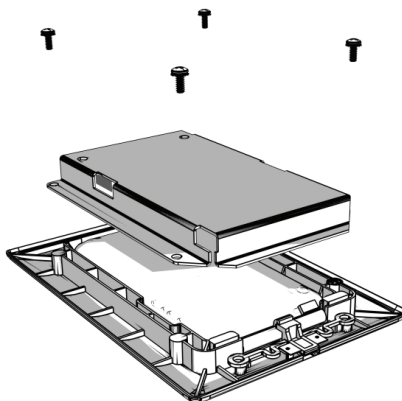

Figure 7: Attach Retainer
10. Place back plate over iPod and secure with 4 screws. The retainer has a foam pad to hold the iPod touch very securely. (See Figure 7)